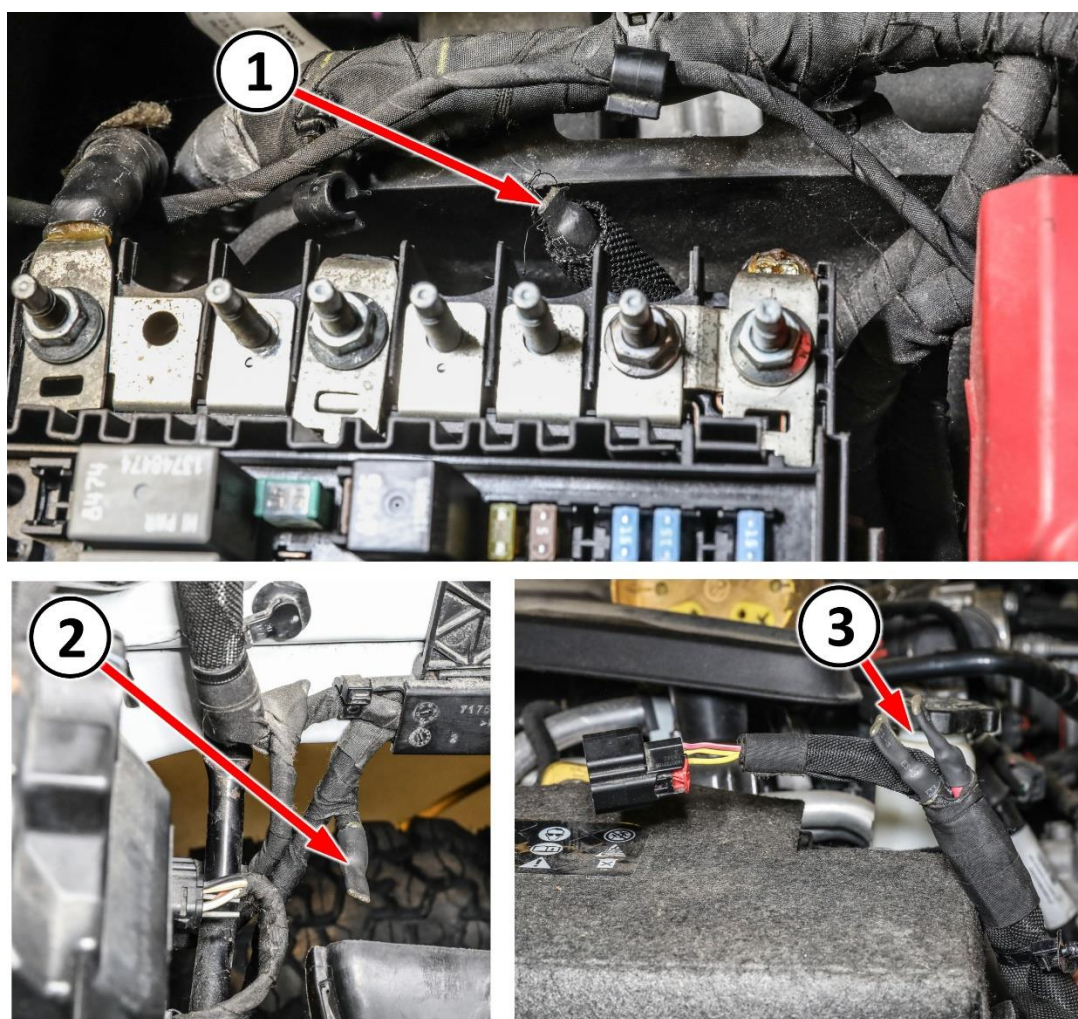

Figure B16 – Seal Exposed Ends of Cut EHPS Wires
35. Use locally sourced heat shrink tubing to seal the exposed end where EHPS power supply eyelet D6630J was removed (Figure B16).
36. Use locally sourced heat shrink tubing to seal the exposed end where EHPS ground eyelet G908A was removed (Figure B16).
37. Use locally sourced heat shrink tubing to seal the exposed ends where EHPS connector D2704A was removed (Figure B16).